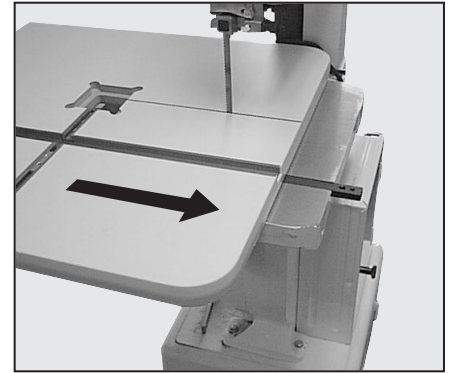
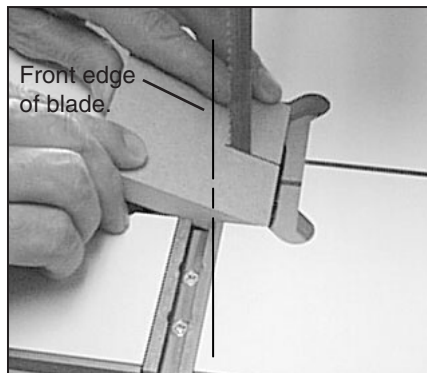

Figure 2: With the insert removed slide the table into position following the existing slot.
Figure 3: For optimum circle cutting, it is important to have the center of the circle cutting track align with the front edge of the blade.
3. Remove the plywood insert in the Rockler bandsaw table. Then slide the table on the saw from the front of the saw (the side you feed stock from), feeding the blade through the slot in the table, see Fig. 2. Position the table so the blade is aligned with the center of the circle-cutting track, see Fig. 3.
6. Slide the table back on the bandsaw. (Be sure the front edge of the blade is aligned with the center of the circle-cutting track, see Fig. 3).